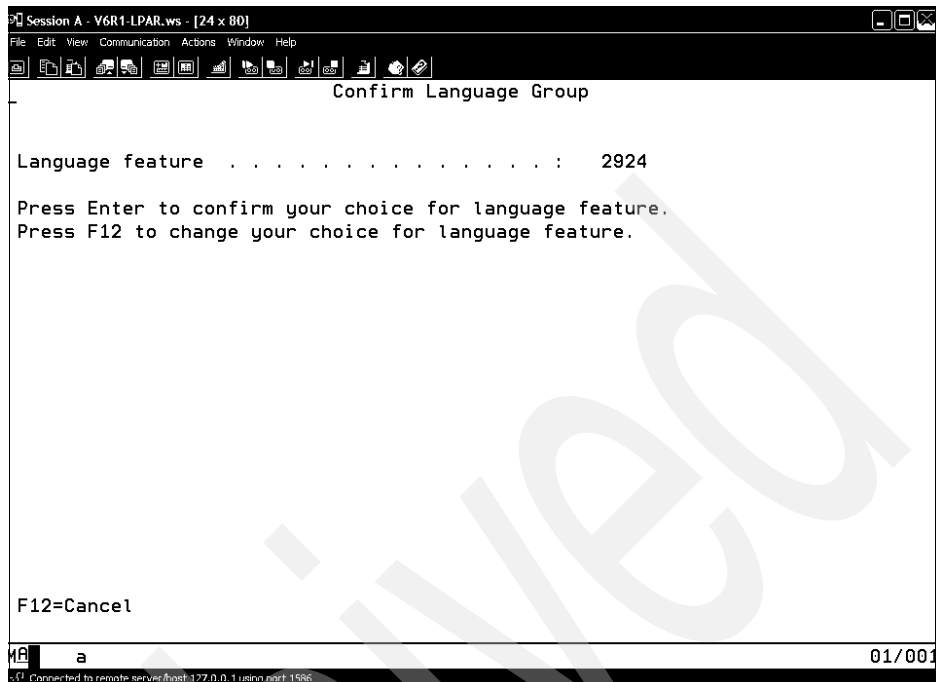

Figure 7-49 Confirm Language setup
5. Depending on the native language, a selection can be made in the next panel, as shown in Figure 7-49 on page 287.